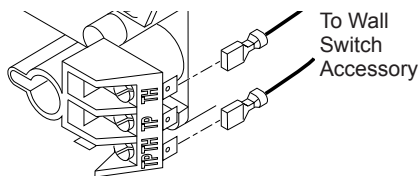

Figure 37 - Connecting Wall Switch to Control Valve
1. Connect one terminal of 25 ft. wire for wall switch to TPTH terminal on valve. Connect remaining wire terminal to TH terminal on valve. Make sure that wire terminals are in positions on unit as pictured in Figure 37. If wires are not connected as shown the switch will not work.